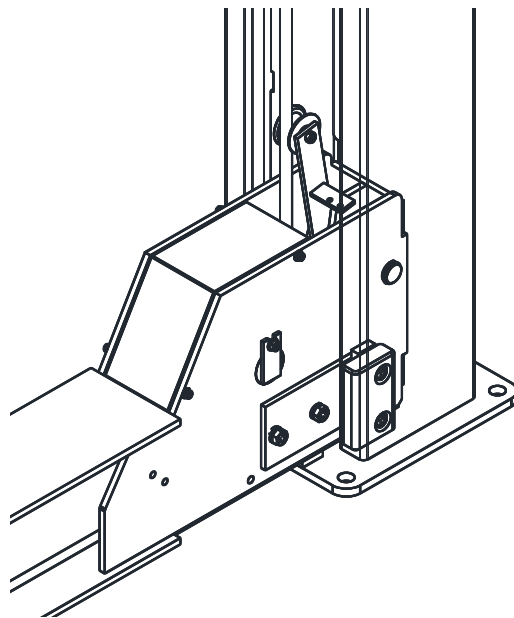
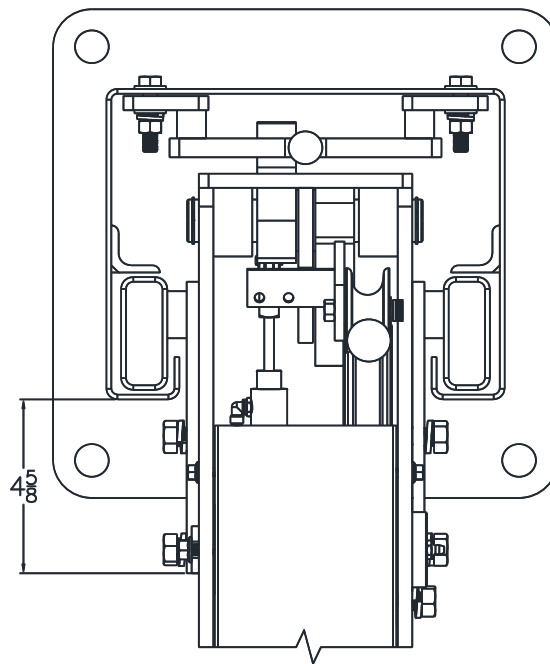

Fig 8 – Slide Block Installation
Fig 9 – Column Positioning
- 12) Slide power side column onto cross beam until the 1/2"-13 threaded holes in the side of the beam are just exposed. Position slide blocks as shown in **Fig 8** and **Fig 9** and attach with 1/2"-13, 0.75" Length steel cap screw, ZC-PLTD, GR-8 bolts (**apply thread nonpermanent locking compound before installing**).
- 13) Push the column against the slide blocks, **Fig 9**. Measure from the column to the edge of the rub block bracket. the dimension should be 4-5/8".